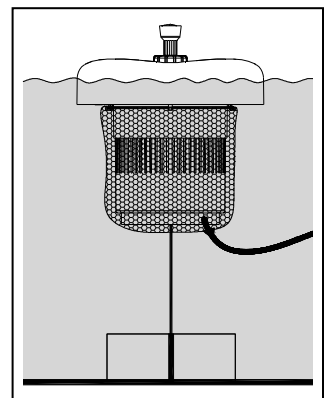

Fig. 3
2. If desired, anchor the fountain in the pond using a heavy object (such as a rock) and some string. Cut a length of string slightly longer than the depth of the pond. Tie one end of the string to the anchor and the other end to the ring at the bottom of the float. Fig. 3